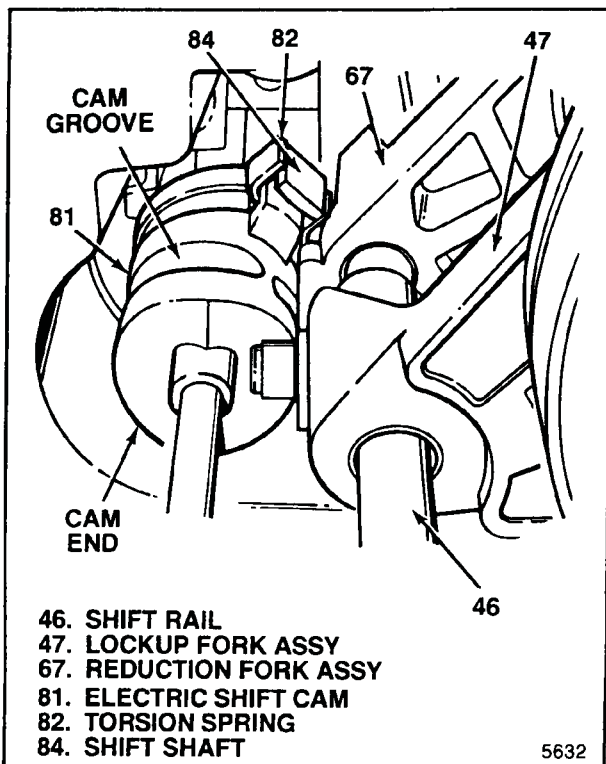

Figure 5-17. Electric Shift Cam Installation
a. Install two fork facings (48) on lockup fork assembly (47).
b. Assemble return spring (44) and lockup hub (43) in lockup collar (45) and retain with snap ring (42), completing 2W-4W lockup assembly (41).
c. Engage lockup fork assembly (47) in groove in 2W-4W lockup assembly (41) and slide this group down over output shaft (65) and shift rail (46) previously installed.
d. Install shift collar hub (40), engaging splines on output shaft (65) and in 2W-4W lockup assembly (41).
e. On electric shift units only, install electric shift cam group (81 through 84) previously assembled (paragraph 5-8) as follows (see figure 5-17):
1. Position electric shift cam group as shown in figure 5-17, rotated so that end of torsion spring (82) will contact side of reduction shift fork assembly (67) that faces up, toward top of case.
2. Holding shift rail (46) down, raise up fork assemblies (67 and 47) slightly. Rotate electric shift cam group into position so that roller on reduction fork assembly (67) is in groove in shift cam (81) and roller on lockup fork assembly (47) is on cam end. Then lower this group of parts into the transfer case engaging shift shaft (84) pin in transfer case.
f. On electric shift units only, install clutch housing (39) over end of output shaft (65).
g. On all units, install snap ring (38) in groove in output shaft (65).